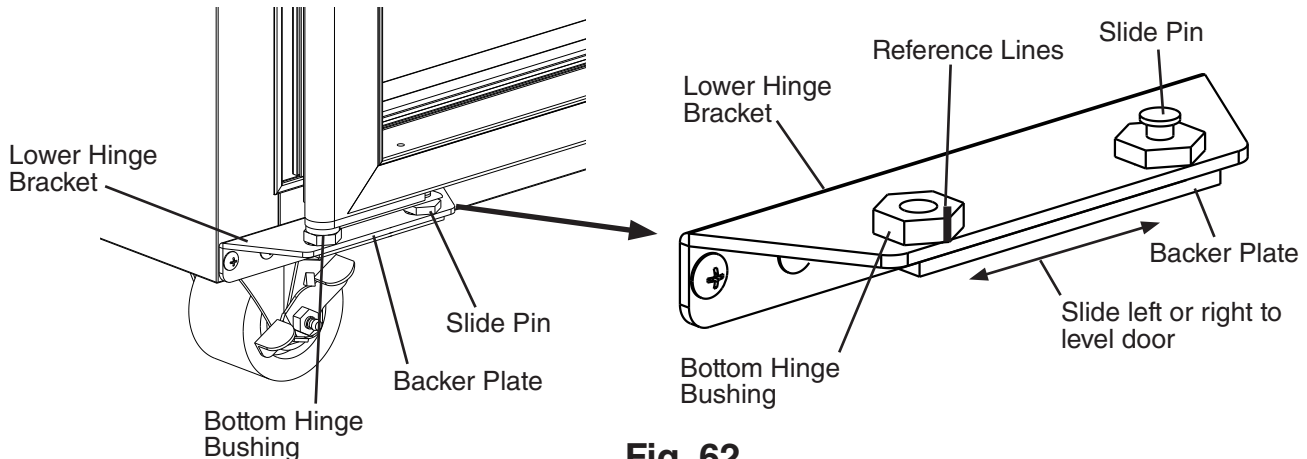

Fig. 62
- 22) Level the doors. If the doors are out of level, loosen the backer plate of the appropriate hinge bracket, slide the backer plate to the left or to the right, then tighten the slide pin and bottom hinge bushing with a wrench until it is tight. See Fig. 62. Next, mark a reference line on the bracket and fitting then tighten the fitting an additional 1/8 turn. Do this for both the upper and lower hinge.